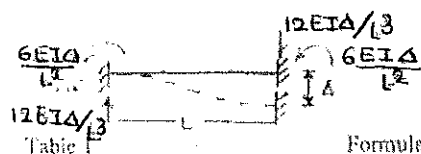

**Figure Q8**
- (ii) A cylindrical tank of radius “a” and thickness “h” is covered with a circular slab plate. Circular plate is subjected to uniformly distributed load **q/unit area** as shown in Figure Q8. The rotation stiffness at the joint is k.